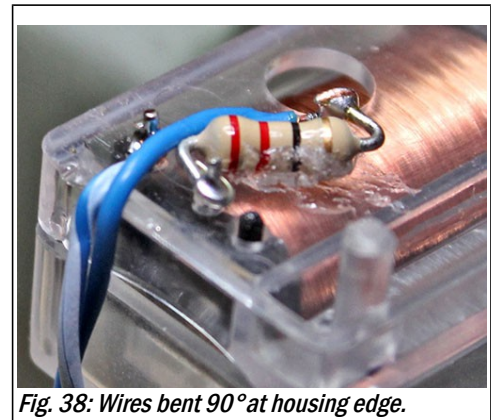

Fig. 38: Wires bent 90° at housing edge.
downward 90° where they cross the edge of the housing, as in Fig. 38. This bend allows the movement to sit flat in the case, and the wires to pass through a slot you will cut in the case (below).
Don't take chances! I strongly recommend securing the resistor to the housing before you perform the next step, using adhesive such as rubber cement, Goop (Fig. 38)
- ☐ Press a finger or thumb over the motor terminals, resistor, and the two wires. Carefully bend the wires downward 90° where they cross the edge of the housing, as in Fig. 38. This bend allows the movement to sit flat in the case, and the wires to pass through a slot you will cut in the case (next, below).
- ☐ If the movement is not seated flat in the case, and firmly onto the conical protrusion, remove it and bend the wires close against the end of the movement housing, as shown in Fig. 38. This should allow the movement to seat flat.